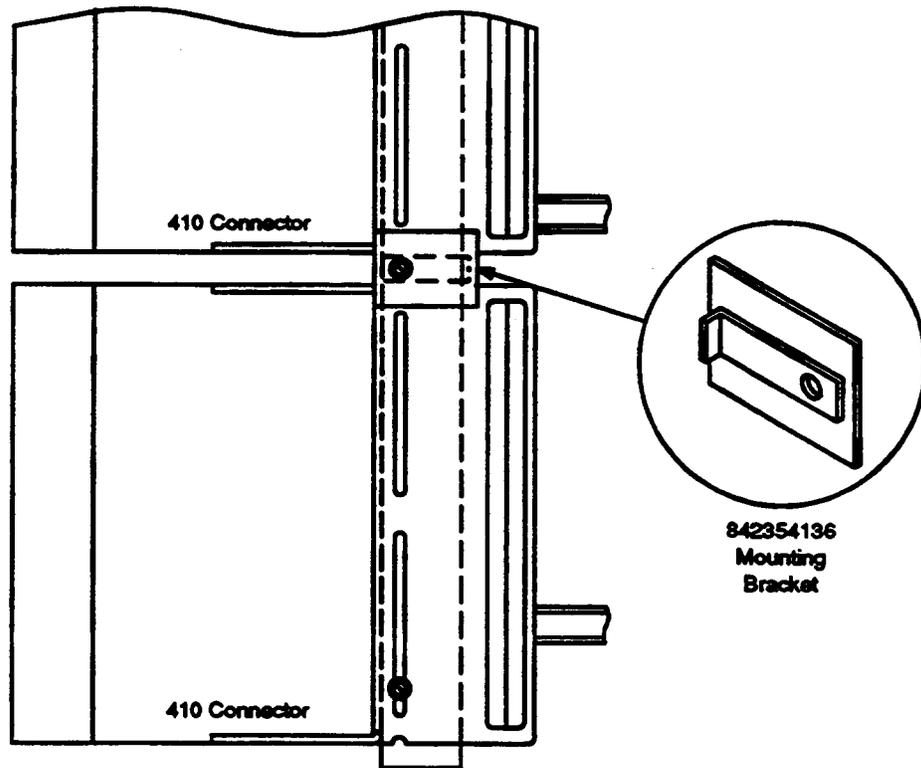

**Figure 6. Mounting Arrangement for the 410- or 410M-Type Connectors Using Existing Mounting Holes**
- (1) If required, open the cable entrance slots or ferrules in the floor, in accordance with local instructions.
- (2) Mark the cable number and pair count of each cable to be terminated on a linen tag or glass tape and attach to the connector and cable prior to mounting.
***For all conventional MDFs which have mounting holes drilled for mounting C50-, 300-, 301-, and 303-type connectors, use the mounting holes for the 410- or 410M-type connectors as shown in Figure 6. The mounting bracket of the connector has two slotted mounting holes and a half hole at each end. Each connector is attached to the frame vertical by using one slotted hole and one half hole. Since the mounting hole pattern differs at the top and bottom of most tall conventional MDF verticals, a mounting bracket may be required. The mounting bracket (842354136) must be ordered separately. See Figures 7 and 8 for mounting bracket installation.***